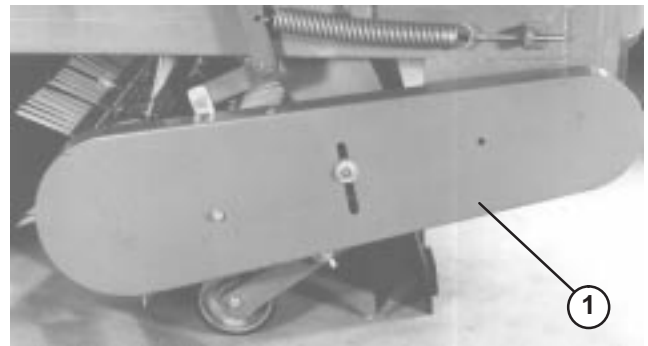
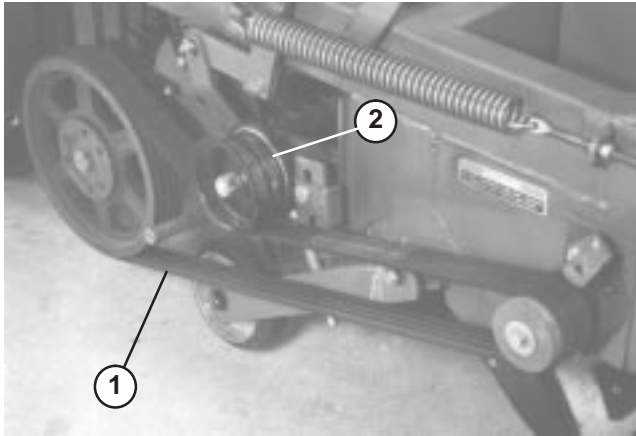

Figure 28
Figure 29
- Remove (2) capscrews, nut, retaining nut and washer securing lower belt guard to frame (Fig. 28). Remove guard.
- If belt has too much slack, loosen idler pulley nut (Fig. 29), press down on idler pulley until desired tension is obtained and retighten idler pulley nut.
- If belt is too tight, loosen idler pulley nut (Fig. 29), pull upward on idler pulley until desired tension is obtained and retighten idler pulley nut.
3. Remove lower belt guard (Fig. 28) and reel drive belt (Fig. 29).
4. Remove (2) capscrews, lockwashers and nuts securing reel shaft bearings to reel support arms on each side of sweeper. Lower flex tip reel to the ground.
1. Remove lower belt guard (Fig. 28) and reel drive belt (Fig. 29).